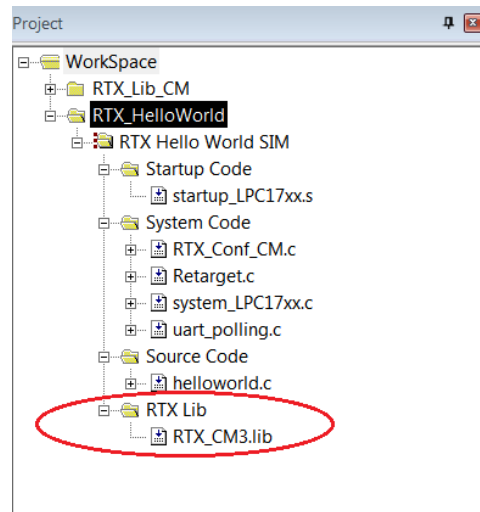

Figure 2.27: Keil IDE: Adding Your Own RTX Library
3. Add the RTX library we built (i.e. RTX\_CM3.lib) to the project (see Figure 2.27).